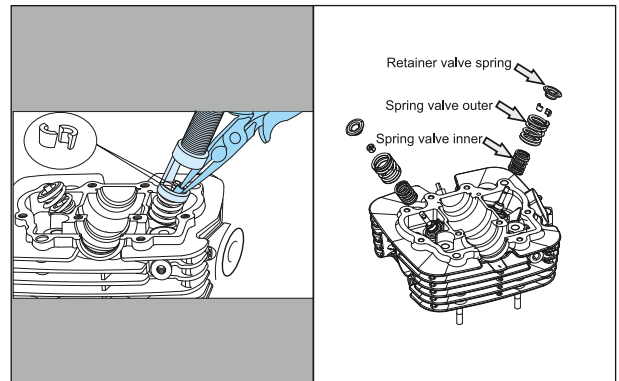

Fig. 3.63
- Remove two cotter valve from the valve stem. (Fig. 3.63)